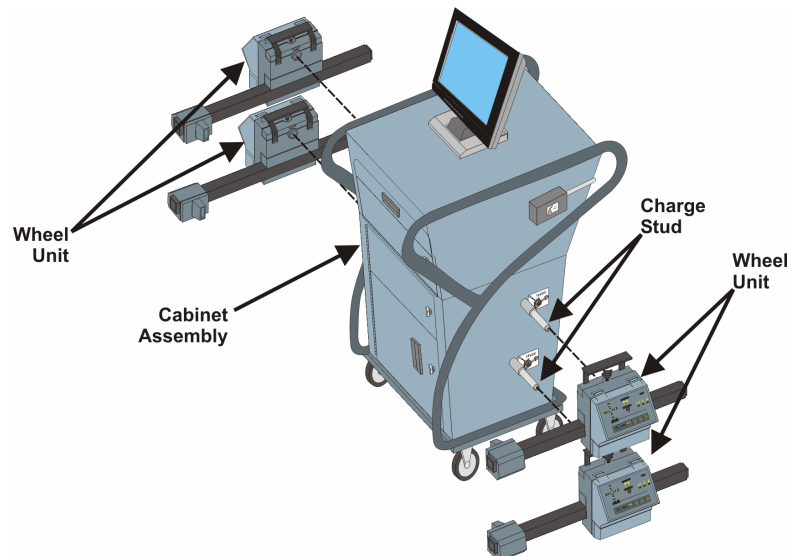

Figure 1-6. Wheel Unit Mounting.
- 1.3.6.1 Arrange the wheel units next to the cabinet, as shown in Figure 1-6.